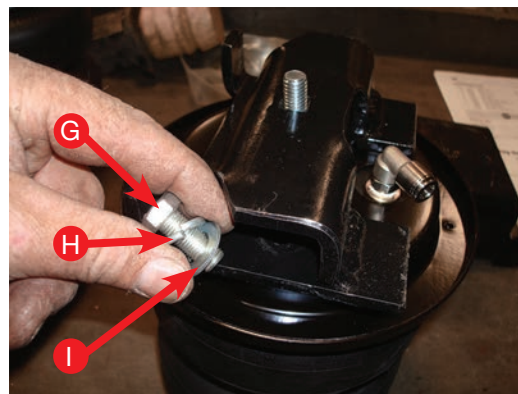
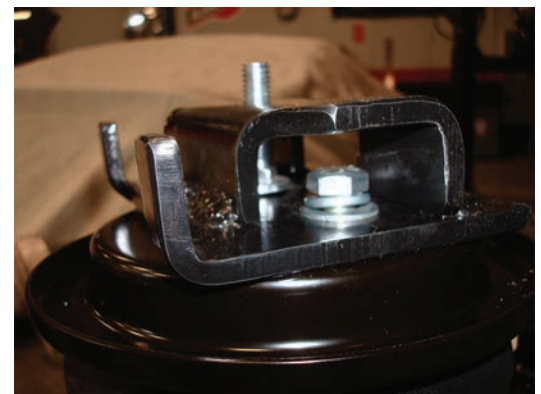

fig. 10
fig. 11
3. Set the brackets on both air spring assemblies and attach with 3/8-16 X 7/8" hex cap screws (G), 3/8" lock washers (H) and 3/8" flat washers (I). Leave loose at this time (Fig. 10). Figure 11 shows the upper air spring assembly.